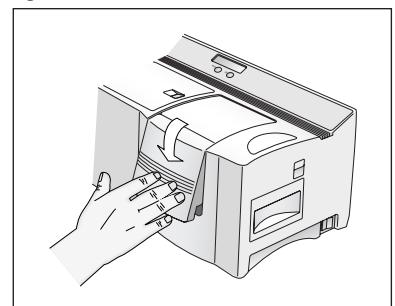

figure 6
⑥ Slowly close the doors. Close the stamp compartment cover to the lock position in order for the xenon lamp to flash (see figure 6).